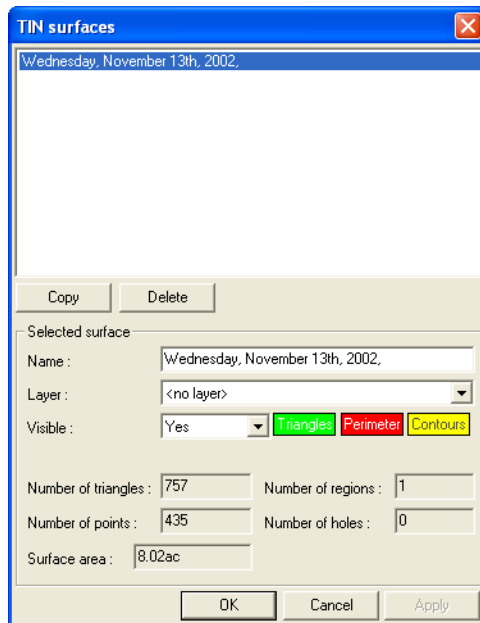

Figure 5-9. TIN Surfaces
To view the 3D Project's TIN surfaces, click **TIN ► TIN surfaces**. The ***TIN surfaces*** dialog box displays the following information about the selected TIN surface (Figure 5-9 on page 5-11):
1. On the **TIN surfaces** dialog box (in a 3D project file, click TIN ► Tins surfaces), select the TIN surface to edit (Figure 5-9).